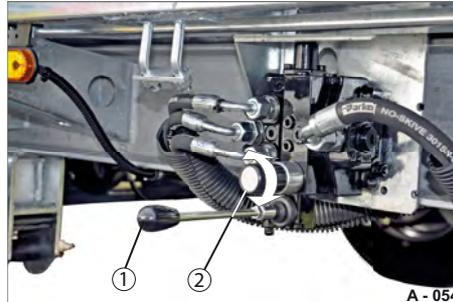

Fig. 86 Operating point
- ▶ Set the pressure at the pressure regulator (Fig. 86/2).
- ▶ Operate the lever (Fig. 86/1) until the correct track width is set.